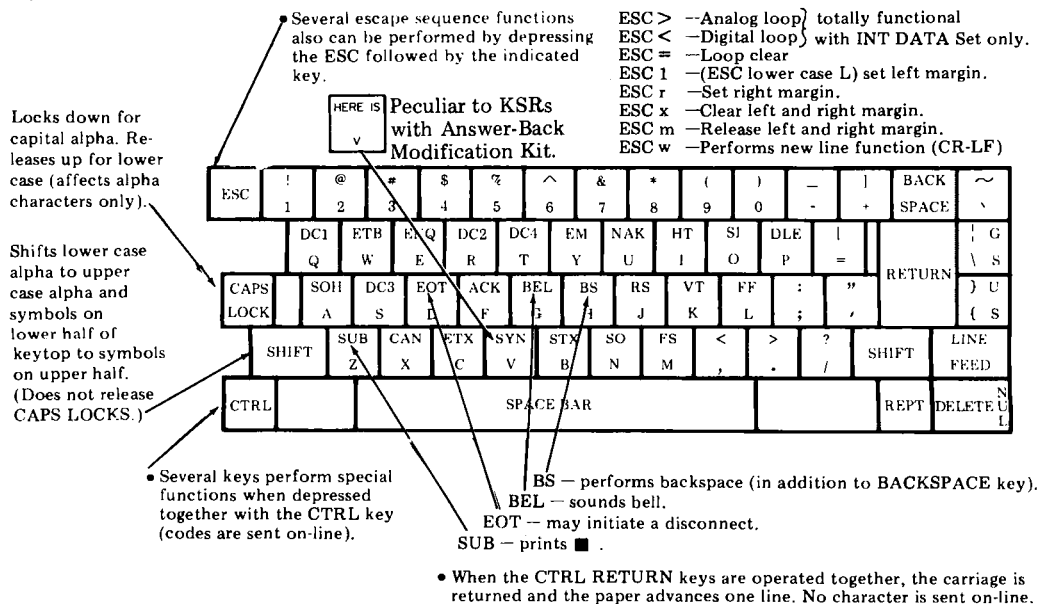

Fig. 4—KSR Keyboard Layout
2.15 The keyboard layout for the KSRs is shown in Fig. 4, along with brief descriptions on the keyboard-printer operation of several special keys. Character transmission is 1968 ASCII,